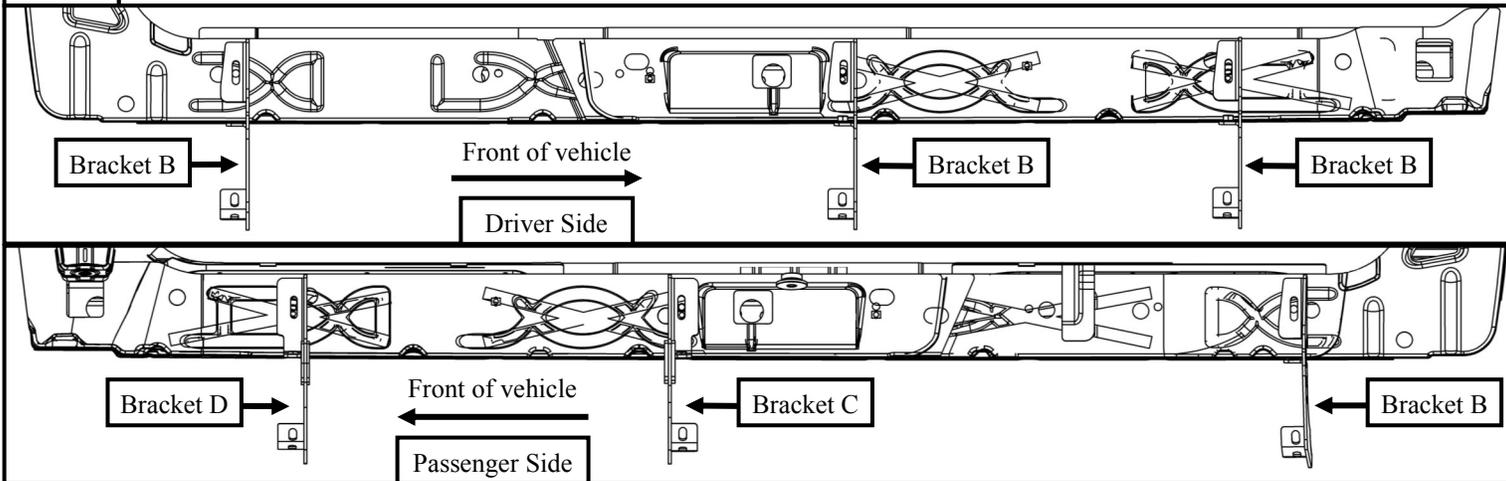

Figure 8
3. Take the mounting brackets and install the bracket and associated hardware loosely to its corresponding positions. For diesel models bracket locations see **Figures 4 & 7**. For gas model bracket locations see **Figures 8 & 9**. For hardware assembly see **Figures 5 & 6**. Do not fully tighten hardware at this time. **Note:** On 1500 crew cab models, front positions will have a welded nut on pinch weld and must refer to **Figure 9** for bracket installation. **For 2015-2016 Diesel equipped models:** The D.E.F tank must be removed prior to installing the brackets on the passenger side. For D.E.F tank removal instructions please refer to **Page 6**. **Note:** Bracket location is critical.